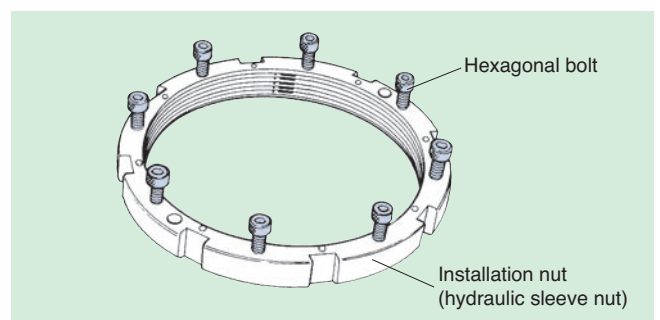

Fig. 14
(3) Prepare an installation nut that suits the shaft it is being mounted to. First assemble fastening bolts (x8) that have been applied with molybdenum dioxide to the installation nut (see **Fig. 14**).